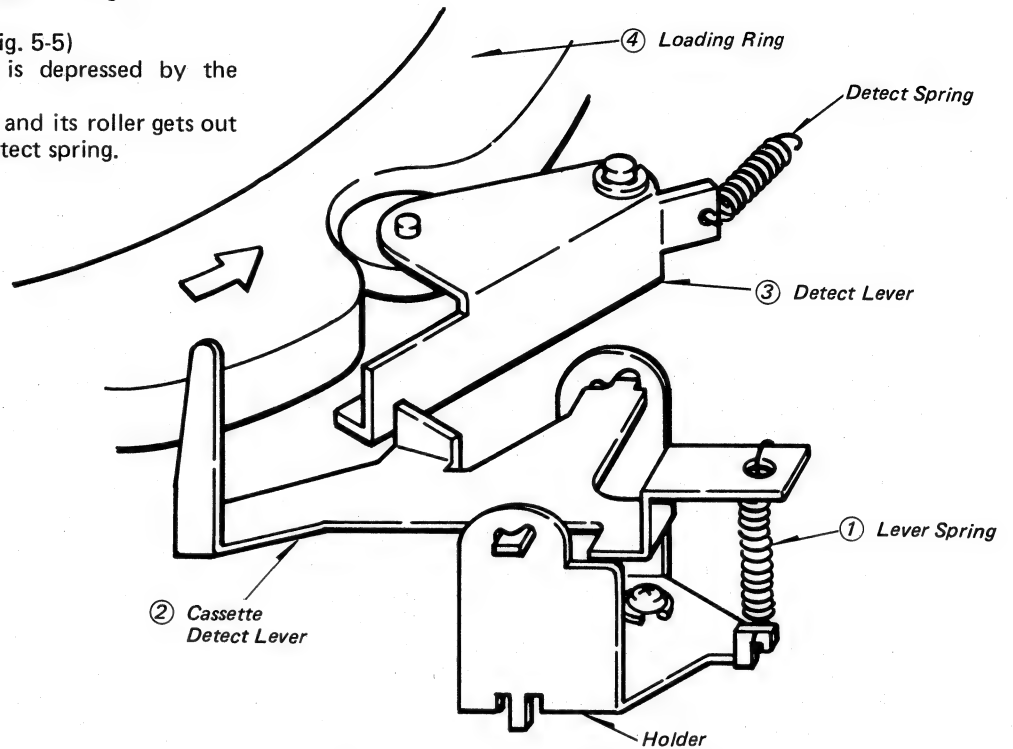

Fig. 5-4 Detecting Arrangement without Cassette
(A) Without cassette (as shown in Fig. 5-4)
- 1) Cassette detect lever ② is lifted up by the force of lever spring ①.
- 2) The pawl of the cassette detect lever ② locks the detect lever ③
- 3) Roller of detect lever ③ gets into the dent of loading ring thereby locking the loading ring ④